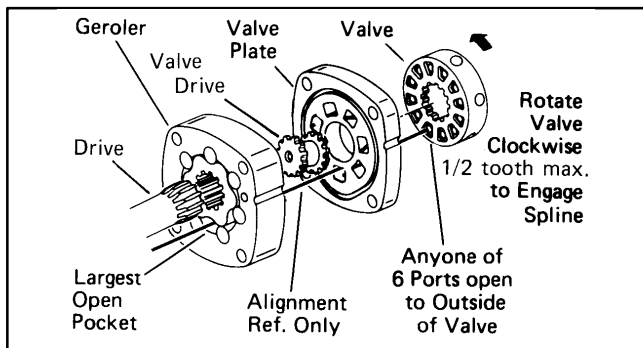

Figure 80
34. Align the notch on the outside of the valve plate with the notch on the Geroter as shown in Fig. 80.